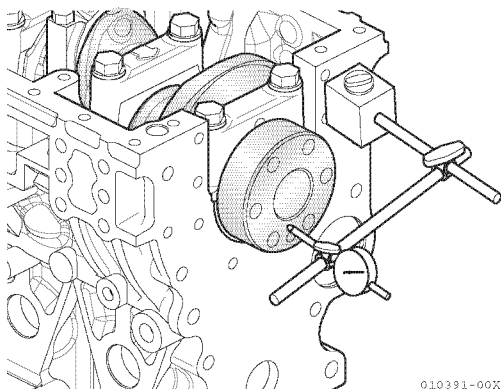

Figure 5-111
- After assembling the crankshaft, tighten the main bearing caps to the specified torque, and move the crankshaft forward and aft. Place a dial gauge on one end of the crankshaft to measure thrust clearance (Figure 5-111). Replace the thrust bearing if it exceeds the limit.